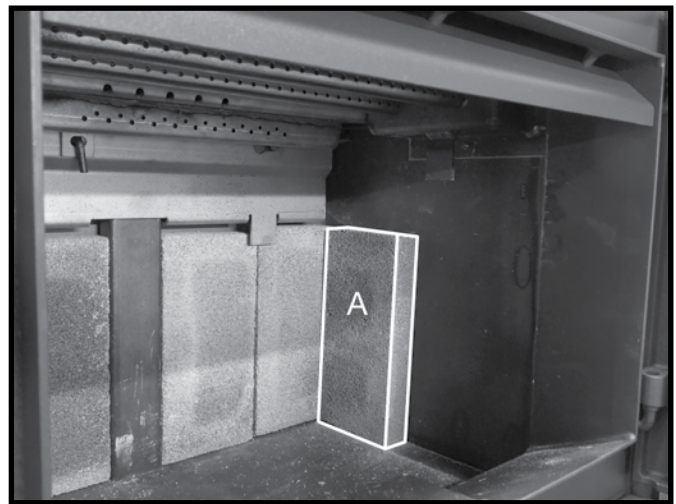

Figure 23: 1st side wall brick in place.
4. For the side walls: Stand an "A" firebrick against the side wall and up against the rear wall firebrick (Figure 23).